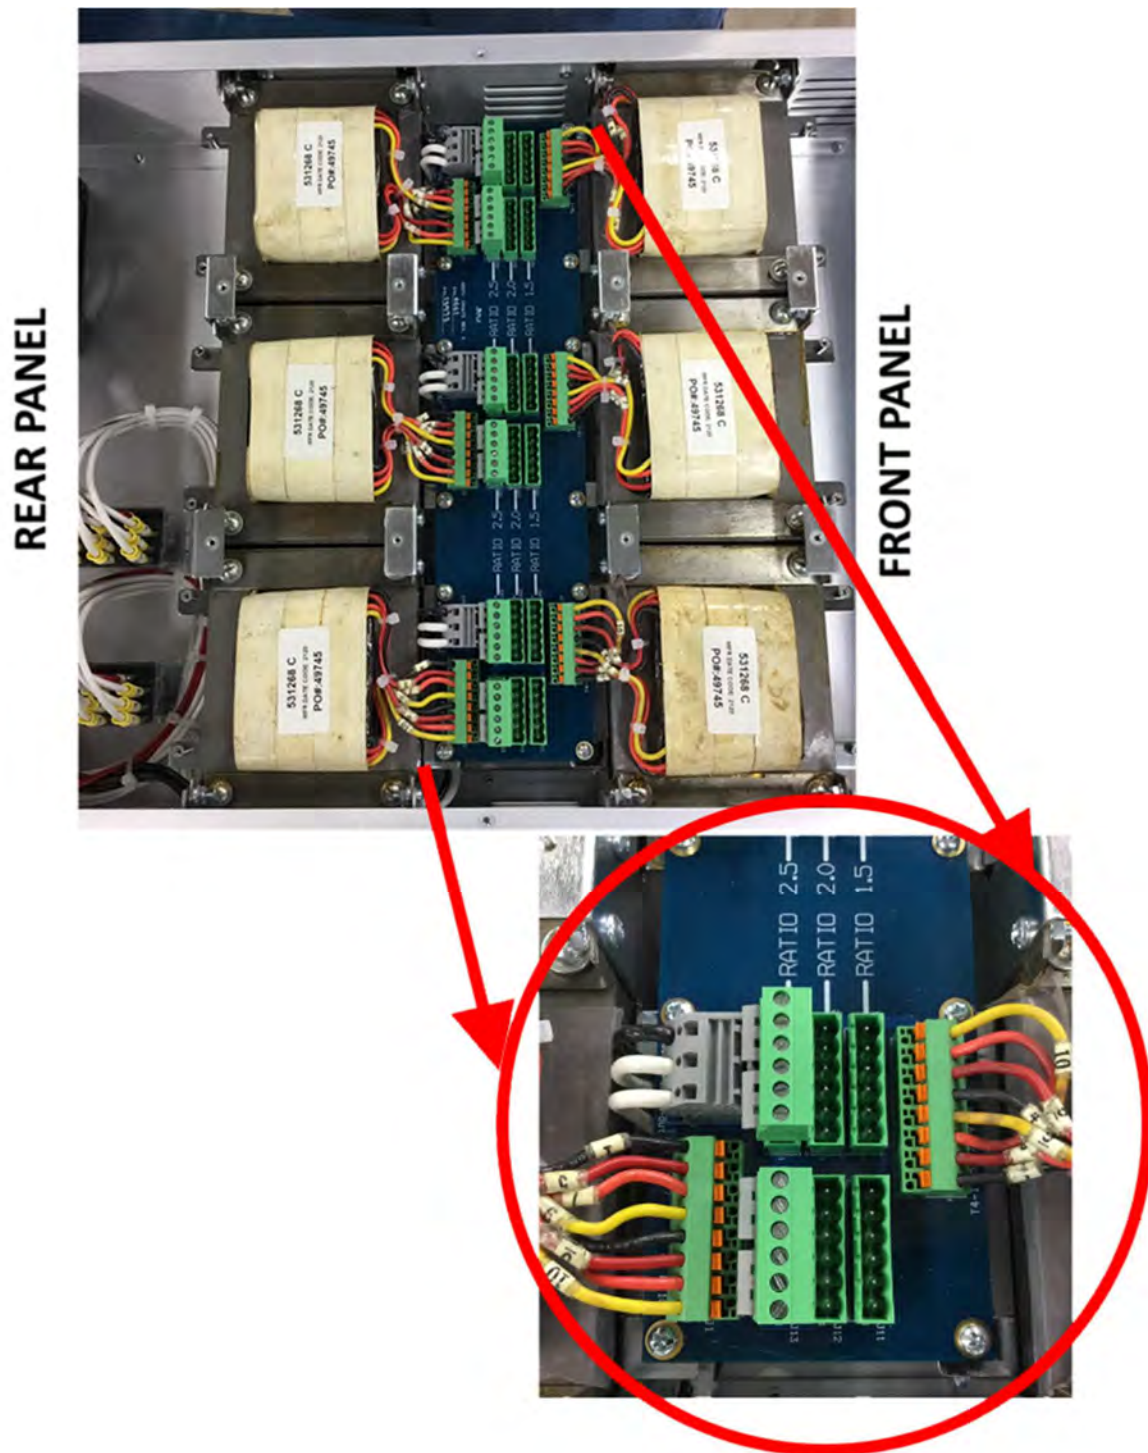

Figure 5-11: External Output Transformer Module Configuration Jumpers
3. Move all jumpers to the desired transformer ratio position. All jumpers must be in the same row. The ratio is shown on the circuit board. Refer to Figure 5-11 on page 85.